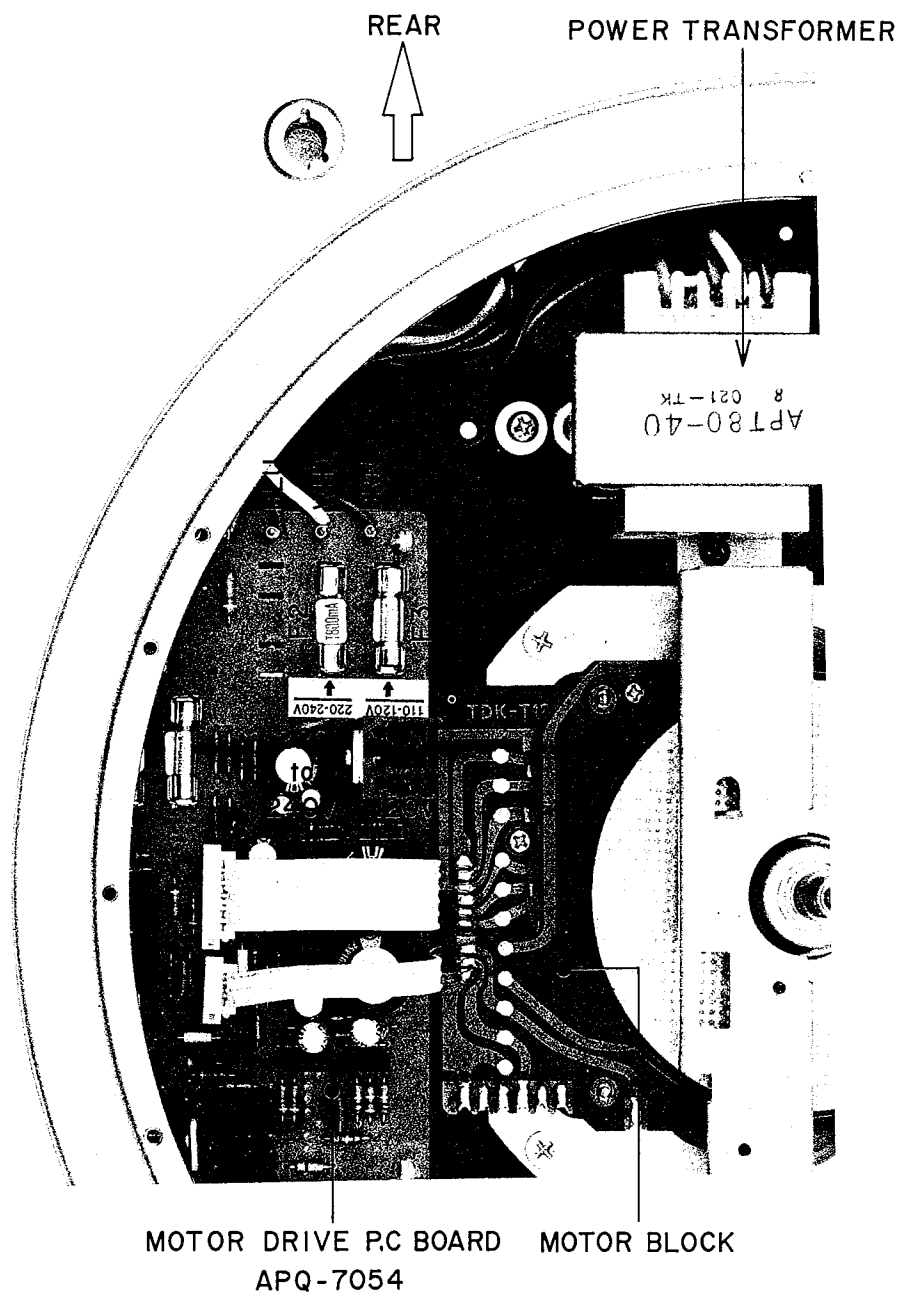

Fig. 3 Voltage Conversion (U/T Model only)
1. U/T Model (Refer to Fig. 3)